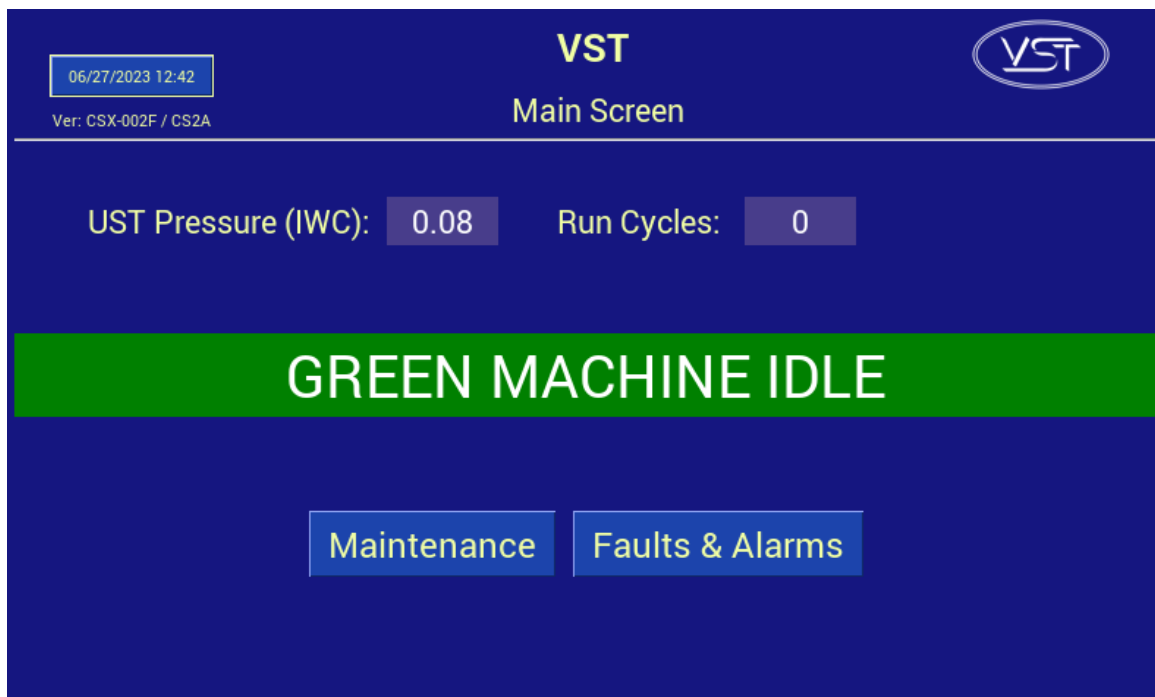

Figure 6-7: Main Screen
1. From the Main Screen, push the Date and Time button. This will bring up the Date and Time Interface Screen. **See Figure 6-7.**